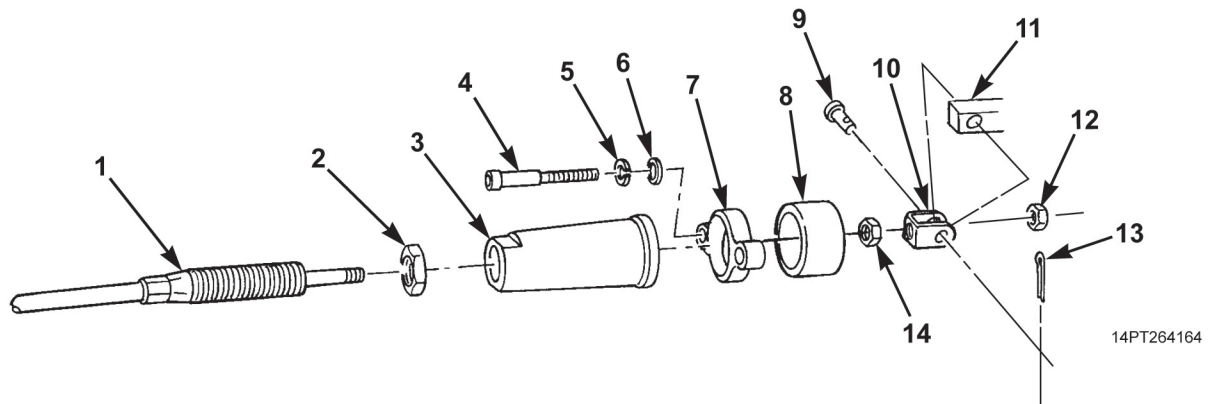

Figure 6. Hardware Removal.
20. At hydraulic pump, turn jam nut (Figure 6, Item 2) over entire length of threads on cable (Figure 6, Item 1).
21. Remove two screws (Figure 6, Item 4), flatwashers (Figure 6, Item 6), and washers (Figure 6, Item 5) from flange clamp (Figure 6, Item 7).
22. Slide flange clamp (Figure 6, Item 7) away from bonnet (Figure 6, Item 3).
23. Unscrew bonnet (Figure 6, Item 3) and slide spacer (Figure 6, Item 8) along cable (Figure 6, Item 1) until cable bracket (Figure 6, Item 10) can be accessed.
24. Remove cotter pin (Figure 6, Item 13) and clevis pin (Figure 6, Item 9) from hydraulic pump actuator (Figure 6, Item 11).
25. Remove nut (Figure 6, Item 12) and cable bracket (Figure 6, Item 10).
26. Count number of threads from end of cable (Figure 6, Item 1) to nut (Figure 6, Item 14).
27. Remove nut (Figure 6, Item 14).